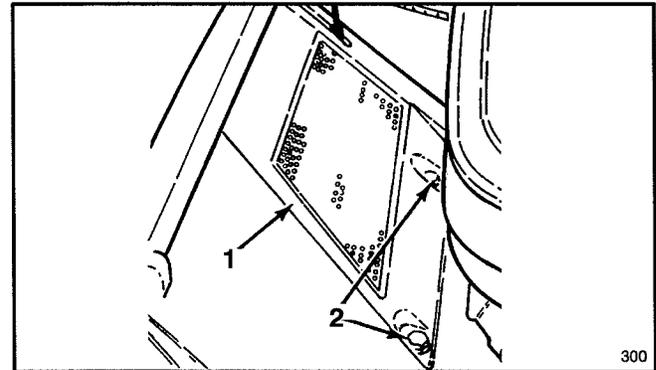

Figure 28
2. Remove (2) screws securing screen panel to top of mower housing (Fig. 28). Remove panel.